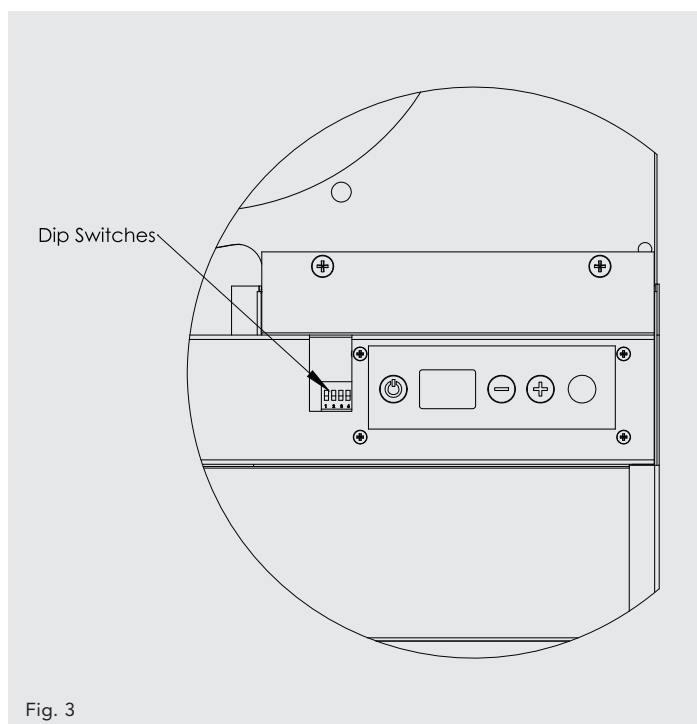

Fig. 3
- Change switch 1 position according to requirements (see fig. 3).